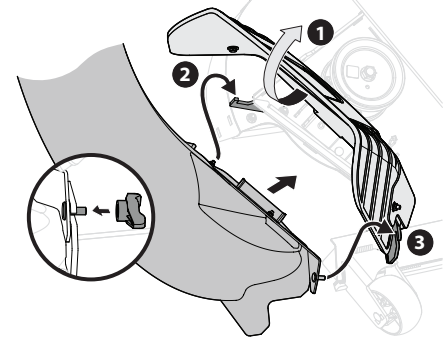

Figure 20
2. With the tractor's outer and inner discharge chutes raised up and held open (1), install the boot assembly (819-011280) by placing the hole on the boot assembly bracket on the tab located on the top, right rear of the deck (2), as shown in Figure 20.
3. Pivot the boot assembly forward, sliding under the discharge chutes raised in Step 2, until the pin on the boot assembly bracket aligns with the slot on the deck. See (3) in Figure 20.
4. Secure the boot assembly to the cutting deck using wing knob (720-04122) from hardware pack 689-02619. See inset of Figure 20.